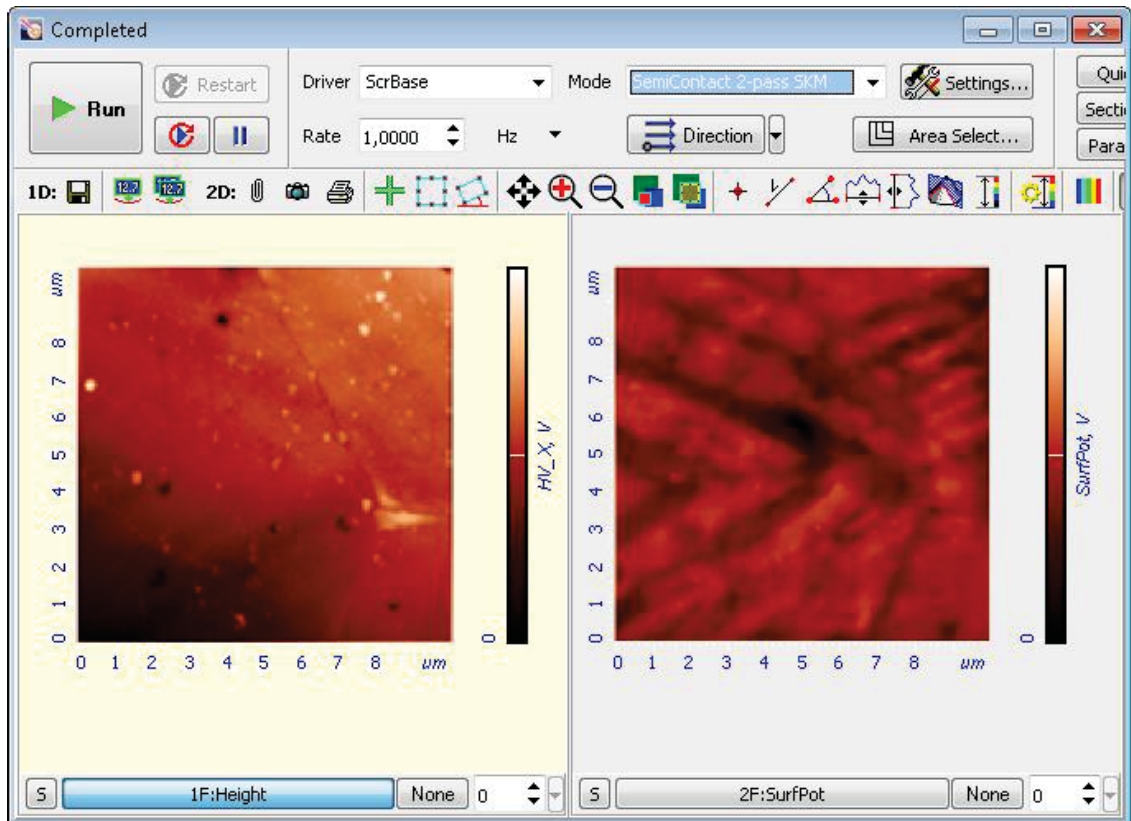

Fig. 9-12. Images of surface topography (left) and spatial distribution of the surface potential (right) over the surface of a LB bicomponent film
- Two images of the scan area appear in the 2D Viewer of the scan data. One of these images reveals the landscape taken with the **Height** signal and the second image displays distribution of the surface potential (**SurfPot** signal) (see Fig. 9-12);